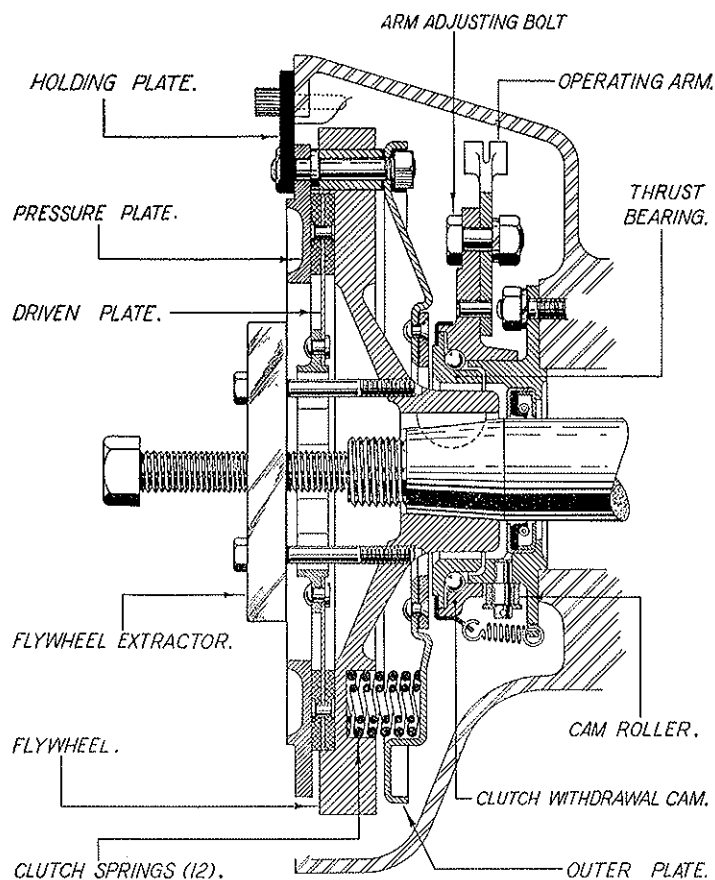

Fig. 16. CLUTCH ASSEMBLY SHOWING EXTRACTOR AND HOLDING PLATE.
To remove the flywheel, withdraw the split pin and remove the flywheel nut (1/14) with a box spanner, holding the flywheel with the plate provided with the extractor. This plate should be secured by two  $\frac{5}{16}$ " B.S.F. screws to the crankcase (see Fig. 16). Use leverage in preference to hammering but if the latter has to be adopted, several light sharp blows will be better than one or two heavy concussive blows which might disturb the truth of the crankshaft. The flywheel and clutch assembly can now be pulled off, using the special extractor which can be obtained from the DOUGLAS Dealer or direct from the Factory Spares Department, and is illustrated in Fig. 16. Remove flywheel key (1/13). If it is considered necessary to dismantle the clutch, the six lock washers around the outer plate (13/1) will have to be bent back and each of the six  $\frac{5}{16}$ " B.S.F. nuts unscrewed progressively to release the spring pressure evenly. The pressure plate (13/11), complete with the six driving studs, their bushes (13/15) and shims (13/16) can now be withdrawn from the flywheel, thus separating flywheel, outer plate, driven plate with friction discs (on the Plus Series, cork inserts) and the six double clutch springs. Only if it is necessary for examination, should the operating cam (14/7) and the spigot assembly (14/6) be removed from the crankcase. The former is held by three small springs (14/18) and the spigot assembly by three  $\frac{1}{4}$ " B.S.F. nuts and split washers.